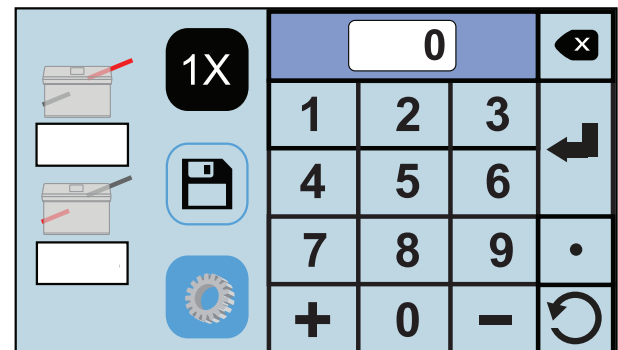

Fig. 56a
2. Select the upper fold plate icon  to adjust the fold stop position for the first fold (the icon will turn a dark gray when selected). Using the touch pad, key in the number or use the "=" and "-" keys to make the adjustment. for the first fold stop position (Fig. 56a). Press the enter key  to enter the measurement. The white box under the icon will show the measurement entered.